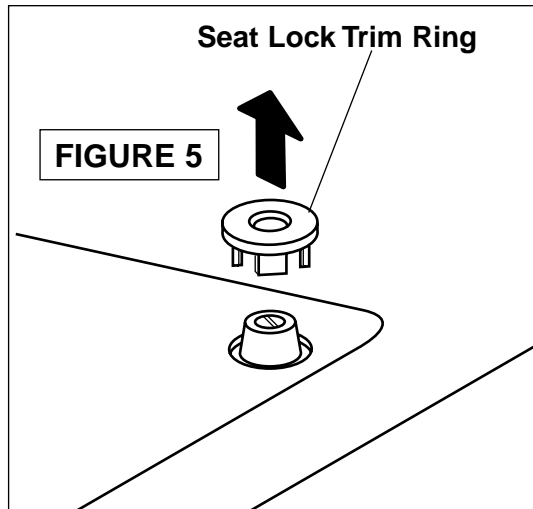

FIGURE 7
12. Remove four (4) 8mm screws securing speaker. Pull out speaker, disconnect and remove.
13. Connect speaker wiring adaptor of replacement speaker to vehicle speaker connector. Secure new speaker with screws previously removed (Figure 7).
10. Remove three (3) phillips/10mm screws securing speaker. Pull out speaker, disconnect and remove.
12. Connect speaker wiring adaptor of replacement speaker to vehicle speaker connector. Secure speaker/bracket assembly to deck with screws previously removed (Figure 7).